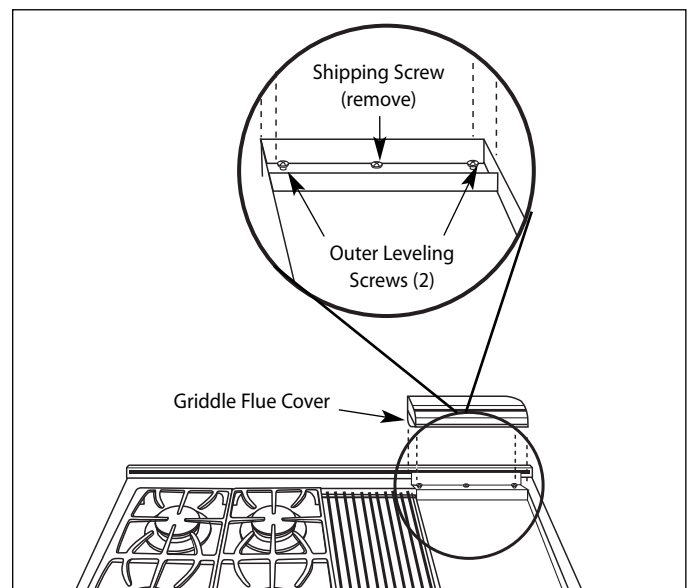

Fig. 2
- The professional cooktop should be moved close to its final location. Electric and gas connections should be made (pgs. 15 & 16) and the backguard installed (as required, pg. 8 & 15) before the cooktop is placed in its final position. The grill and griddle sections are fastened in place at the front with screws. They are designed to be stationary and not meant to be removed for cleaning. The griddle has two leveling screws beneath the rear flue cover which can be used to adjust the griddle to the desired slope. The center screw is for shipping and should be removed. See Fig. 2.